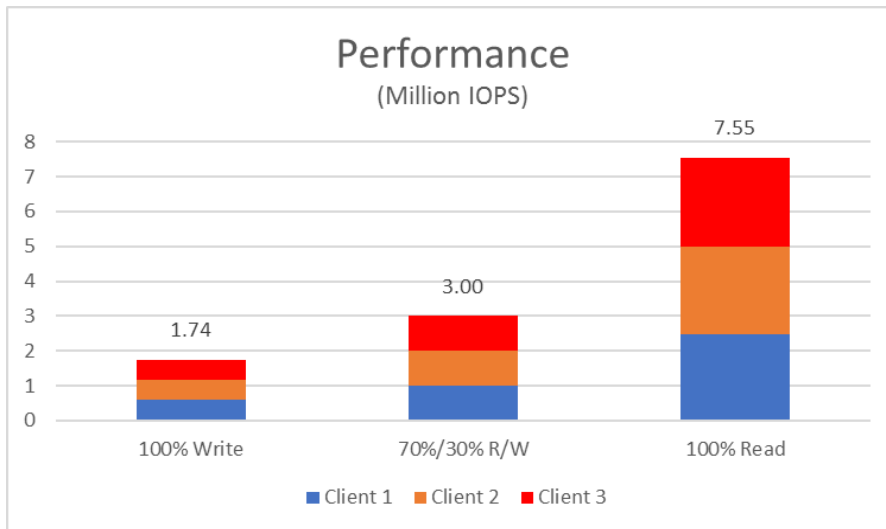
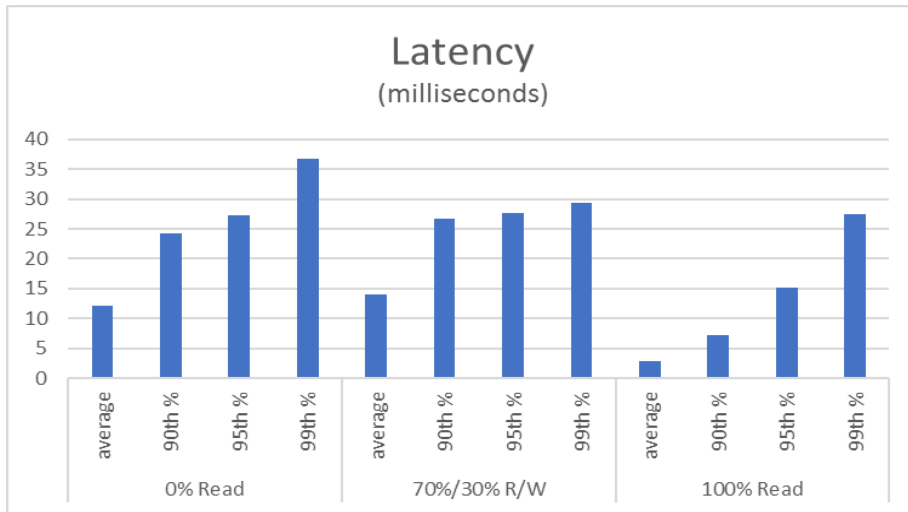

Figure 7: Performance Results for 3-Node Excelero NVMesh Cluster
Figure 8: Latency Results for 3-Node Excelero NVMeSH Cluster
Analyzing the test results (Figure 7, Figure 8), several observations can be made:
- 99th percentile latencies are less than 30ms for 70%/30% read/write workload and a RAID-1/0 volume configuration (Figure 8). This is in line with our expectations based on real-world, measured local SSD latency for the 9100 Max SSD and the use of the XFS file system and RAID level at higher queue depths for this workload profile.